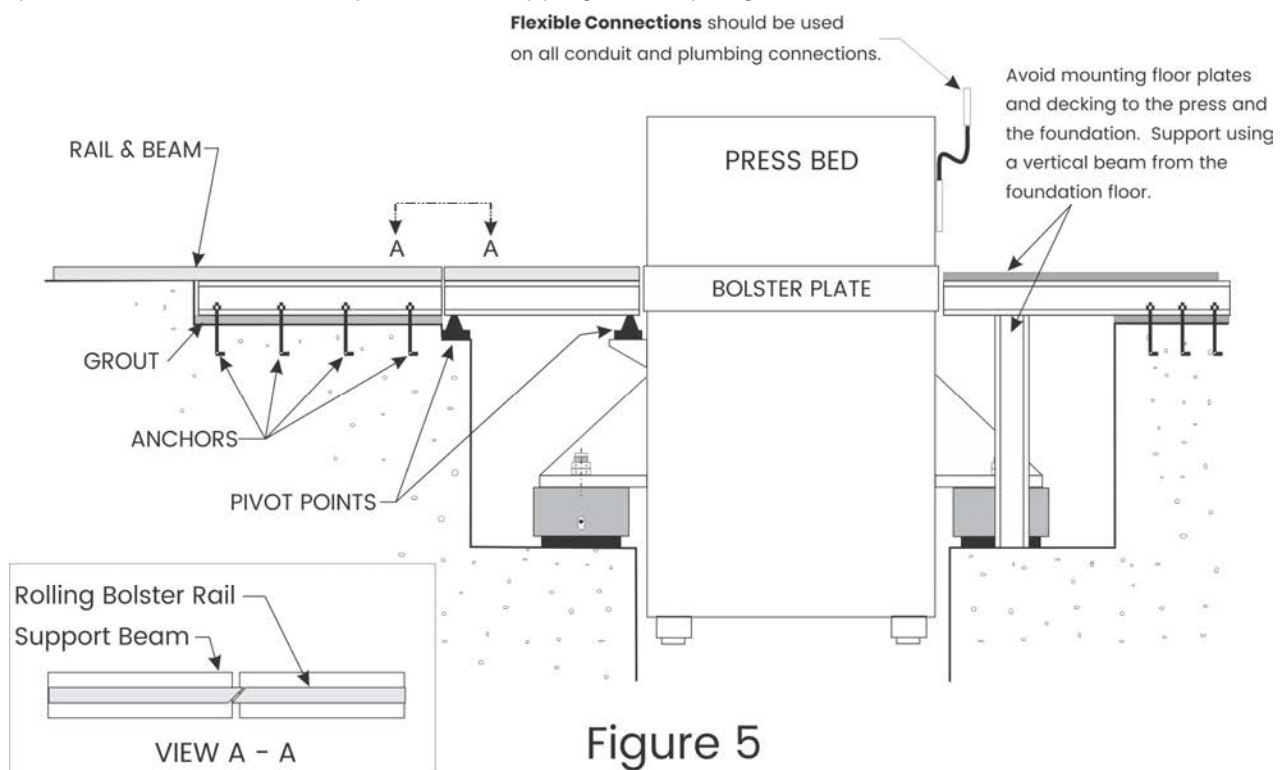

Figure 5
16. There should not be any solid connections between the machine and the foundation or building structure. Flexible connections are recommended for all plumbing and electrical conduit. Floor plates, walkways, railings, feeds, rolling bolster rails, etc. should *not* be attached to *both* the machine and the floor, foundation or building (See Figure 5). Hard connections will "short-circuit" isolation effectiveness.